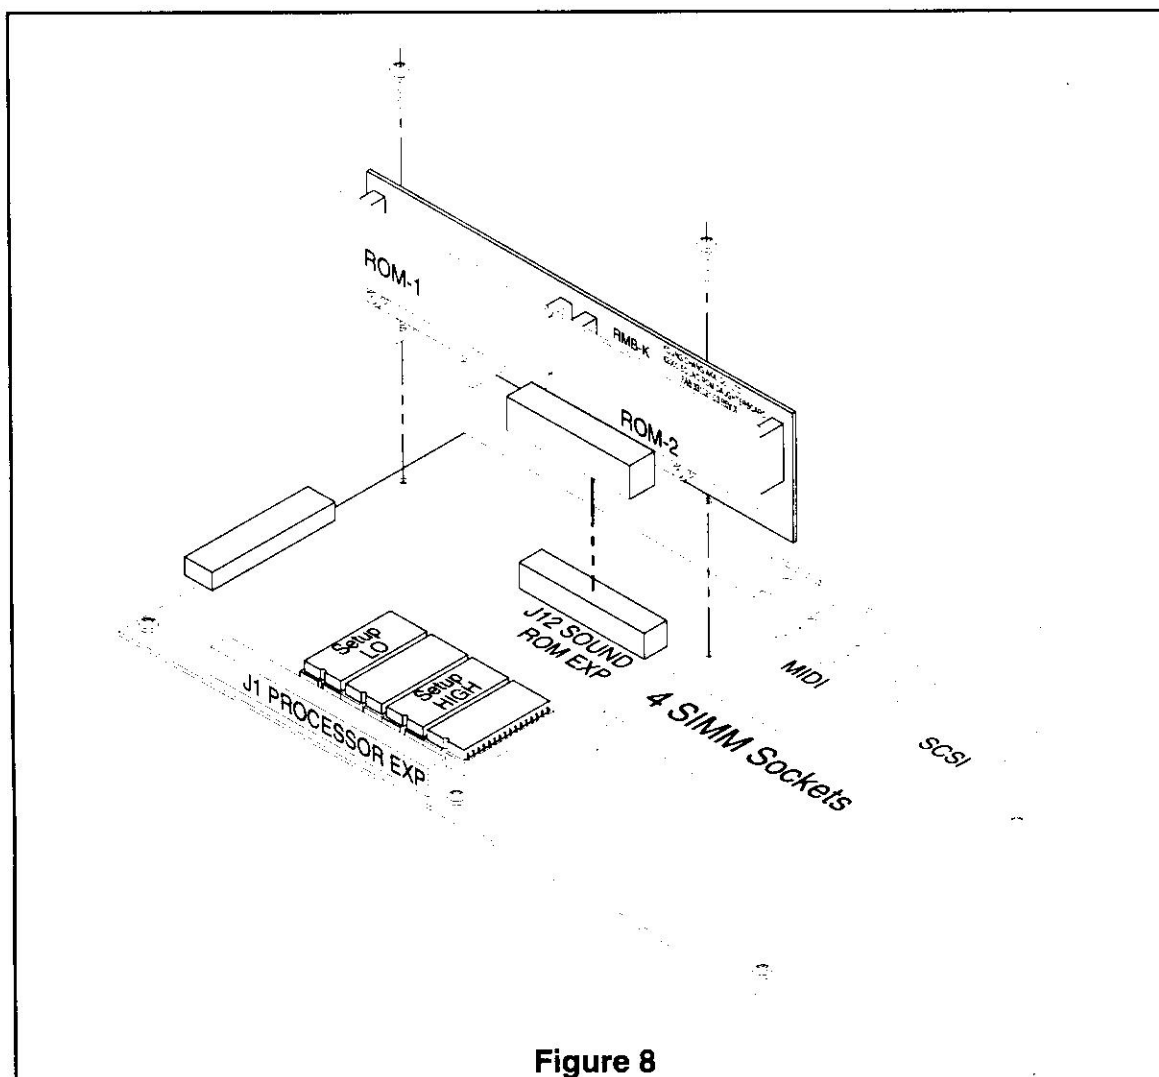

Figure 8
13. See Figure 8. Push the RMB-K Daughter Board, with the both ROM boards installed, back onto J12, the "SOUND ROM EXP" connector. The side of the RMB-K Daughter Board with the ROM board on it should be facing connector J1, the 64 pin connector labeled "PROCESSOR EXP.". Replace the two Engine PCB mounting screws through the RMB-K Daughter Board mounting brackets.